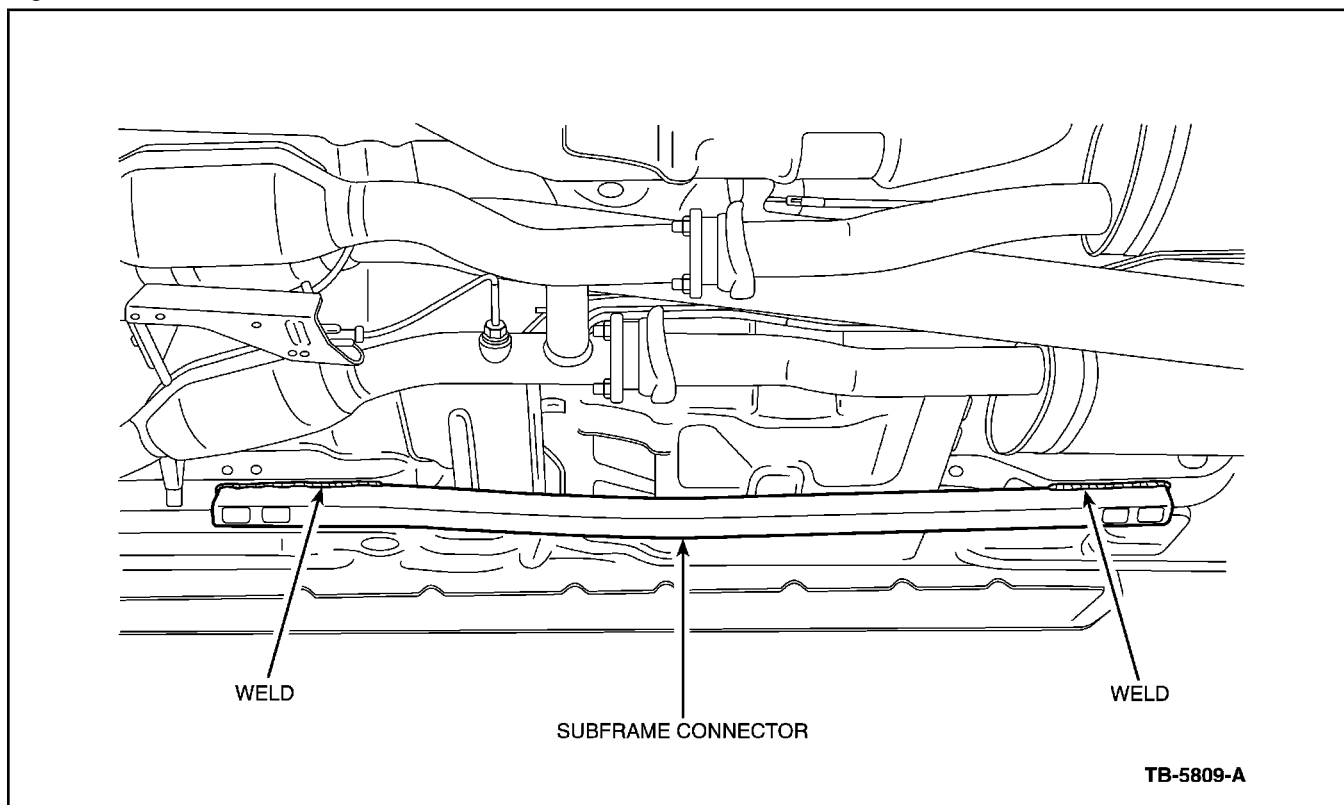

Figure 2 - Article 00-9-7
- The welds should have a minimum 5mm weld bead and a minimum total length of 75mm on both sides of the rail and at both front and rear ends (Figure 2).